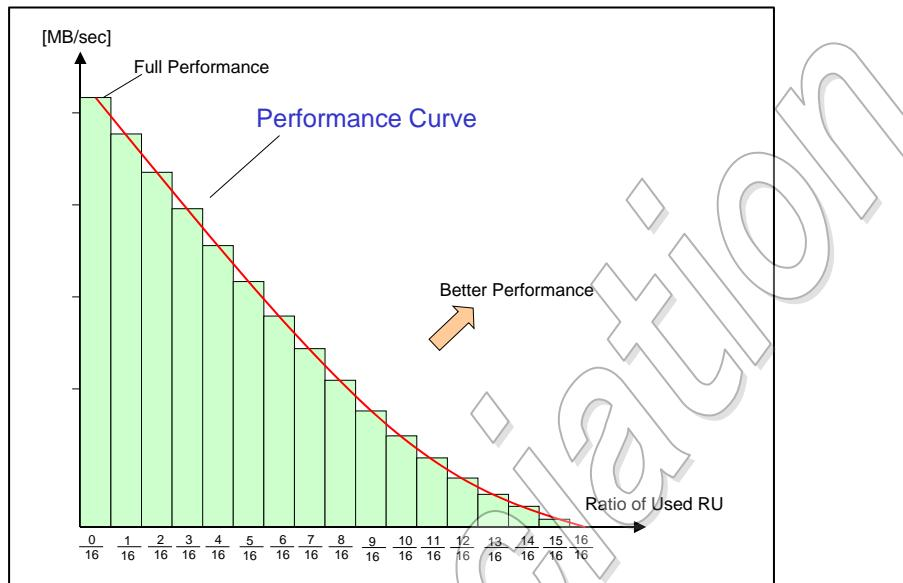

Figure 4-49: Card Performances between 16 RUs
Figure 4-49 shows the write performance bar chart of $P(Nu)$ of equitation (1). An AU consists of 16 RUs in this example. Joining the points of each bar shows the performance curve, which can be determined from the two parameters, Pw and Pm .